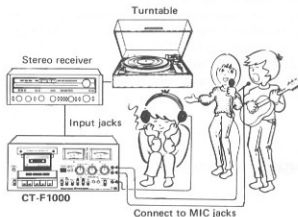

Fig. 10
1. As shown in Fig. 10 connect the microphones to the MIC jacks, and connect the program source, such as the turntable, through the receiver to the CT-F1000's LINE INPUT terminals. When using the DIN connector, unplug the microphones from the MIC jacks.